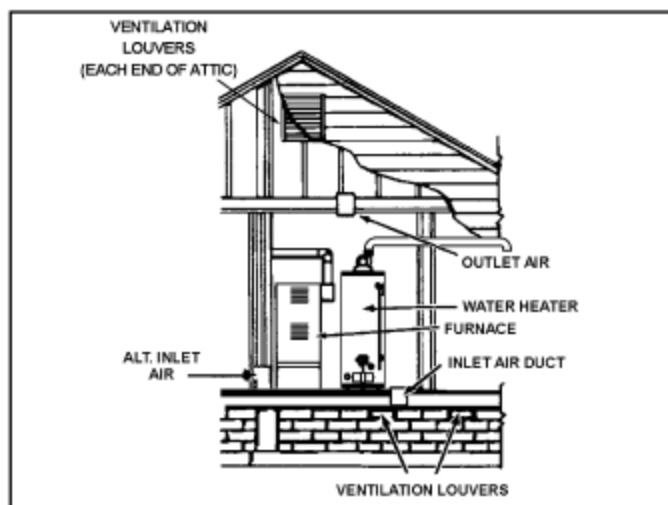
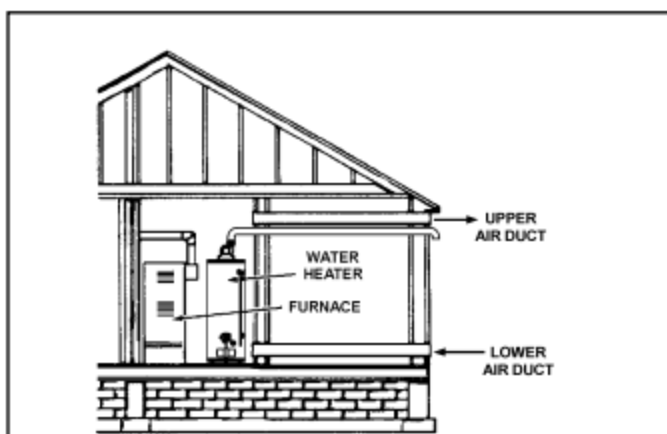

Figure 18.
Figure 20.
Use this method if indoor combustion air is insufficient. (See Figure 18 through Figure 20).
1. When directly communicating with the outdoors, each opening shall have a minimum free area of 1 square inch per 4,000 Btu/hr of total input rating of all equipment in the enclosure (see Figure 18).
3. When communicating with the outdoors through horizontal ducts, each opening shall have a minimum free area of 1 square inch per 2,000 Btu/hr of total input rating of all equipment in the enclosure (see Figure 20).
4. When ducts are used, they shall be of the same cross-sectional area as the free area of the openings to which they connect. The minimum short side dimension of rectangular air ducts shall not be less than 3" (see Figure 20).